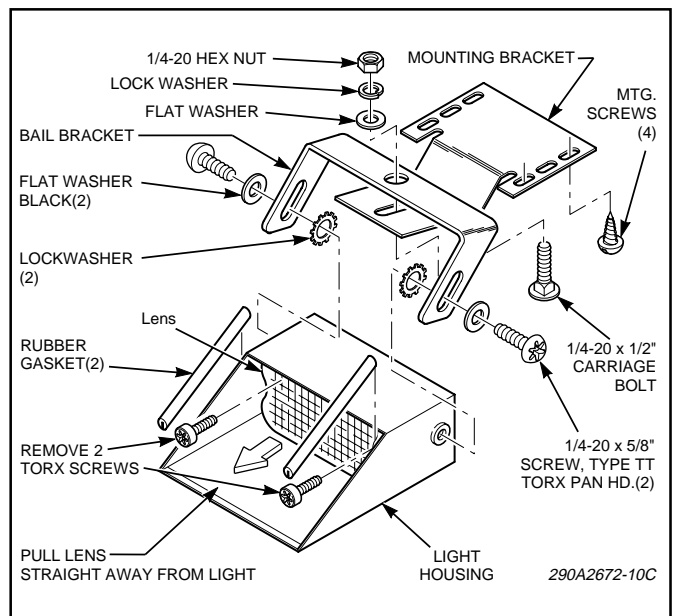

Figure 3.
6. See figure 3. Assemble the bail bracket to the light assembly using the two 1/4" x 5/8" pan head screws, external tooth lockwashers, and black flat washers. Do not tighten the screws at this time. Cut the rubber gaskets to length and assemble to the sides of the light assembly as shown in figure 3.
7. See figure 3. Assemble the light assembly/bail bracket to the mounting bracket's center slot using the 1/4-20 carriage bolt, flat washer, split lockwasher, and 1/4-20 nut. Do not tighten the nut at this time.
b. Remove and retain the two screws and lockwashers which secure the light assembly to the mounting bracket (see figure 3).